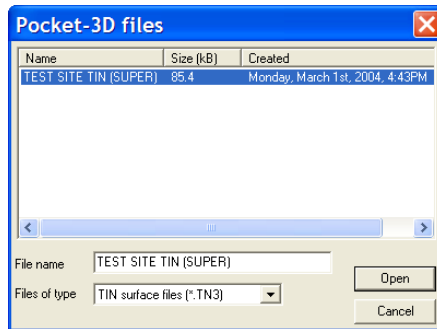

Figure 5-6. Select File and Click Open
2. On the *Pocket-3D files* dialog box, select the file type (*.tn3) and the desired file, then press **Open** (Figure 5-6).